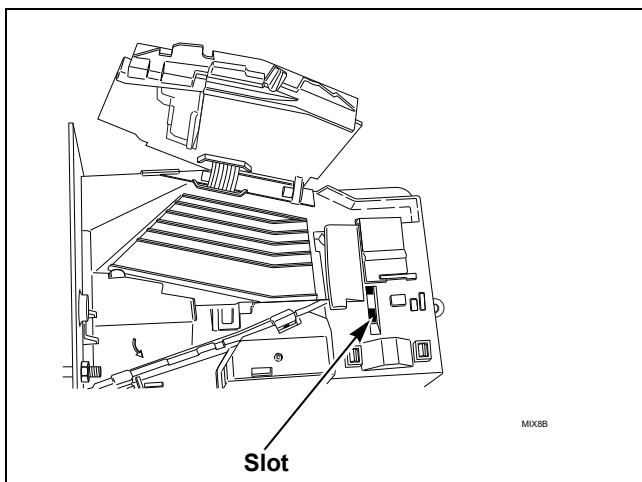

Figure 17
11. Place clip, installed on spring, in slot on coin drop. Refer to *Figure 17*.